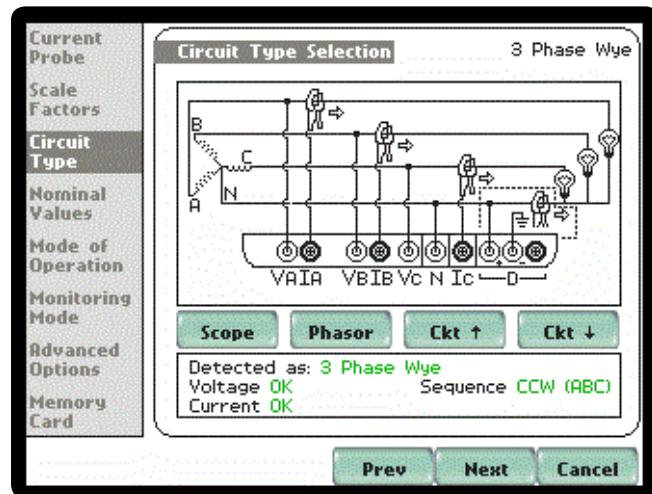
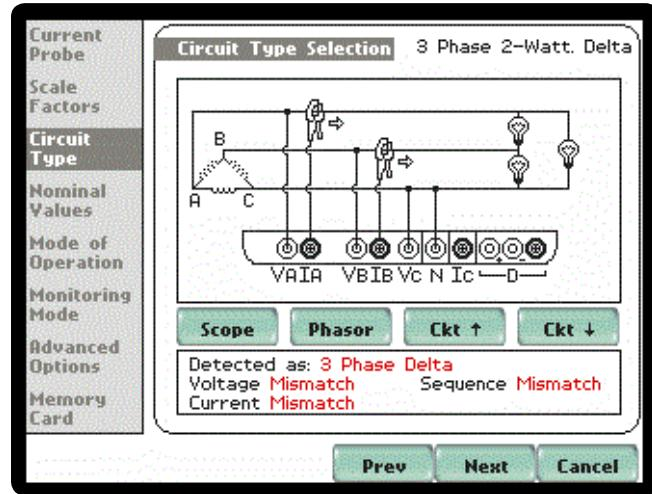

Figure 2a. Determining the connections for an energy analyzer.
Figure 2b. Determining the connections for an energy analyzer.
Connecting the analyzer depends on the circuit type. A single-phase circuit has two wires (L, N), so according to the (N-1) approach, it requires one wattmeter. A split (2) phase has three wires (L1, L2, N) and requires two wattmeters. There are two common types of three-phase circuits, Wye and Delta with the difference being the reference used for measurements. A Wye circuit is the simplest using Neutral as the measurement reference. A Wye circuit has four wires (A, B, C, N) and requires three wattmeters. Delta, having only three wires (A, B, C) is more complex since there is no Neutral or other fixed measurement reference. Following the typical procedure, two wattmeters are required and one phase is chosen as the reference, with phase C being the most common choice, as shown in Figures 2a and 2b.
It is also able to automatically detect the circuit type to simplify settings. For example, the EP1 screen shot in Figure 2a illustrates when it is connected to a Wye circuit. The image shows the circuit type automatically detected as "3 Phase Wye" and shows the voltage and current connections are "OK." The screen capture in Figure 2b shows that the circuit type manually changed to "3 Phase 2-Watt Delta" is incorrect, which is indicated by the "Mismatch" indicators in red.